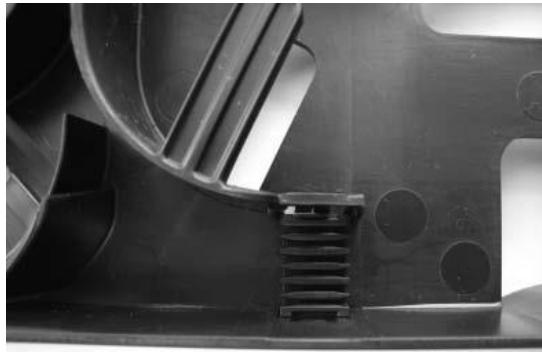

Fig.8
- ii) Insert TB Fiber Holder (Component No 9) (Fig 8) - this is an optional feature. TB Fiber Holders can be double stacked allowing for 48 TB fibers in total.